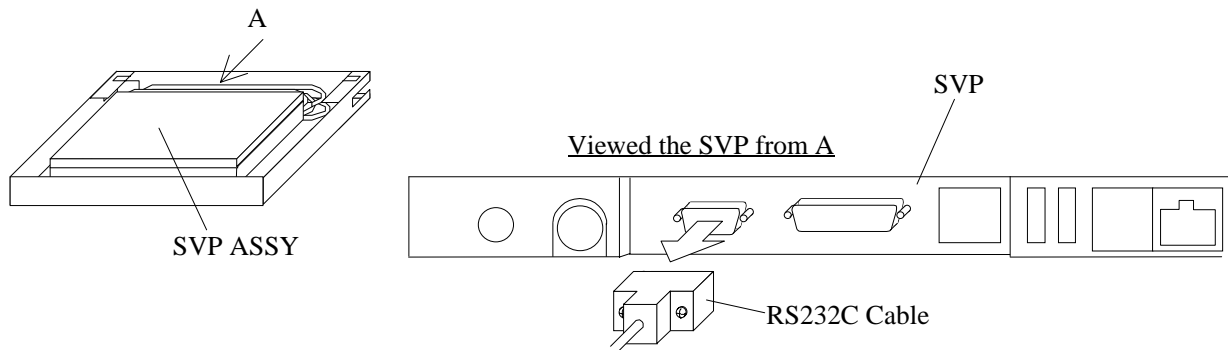

Fig. 4.9-14 Removing and installing RS232C Cable
- a. Attach the SVP and RS232C Cable. (See Fig. 4.9-14.)